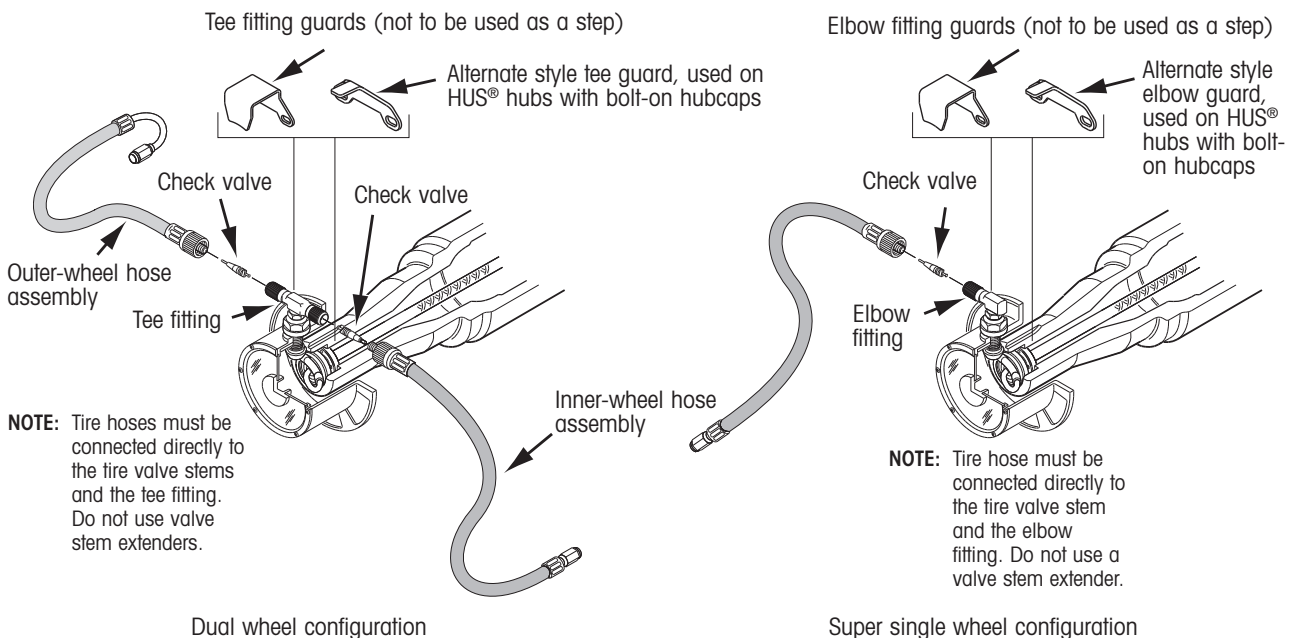

Figure 6. Tire hose, check valve and tee (or elbow) fitting guard removal and installation
1. Disconnect the tire hose(s) at the tee (or elbow) on the hubcap (figure 6).
4. Attach tire hose and check valve assemblies to the tee (or elbow) fitting and tighten finger tight (figure 6). Using pliers, carefully and gently verify that the hose connection is tight.